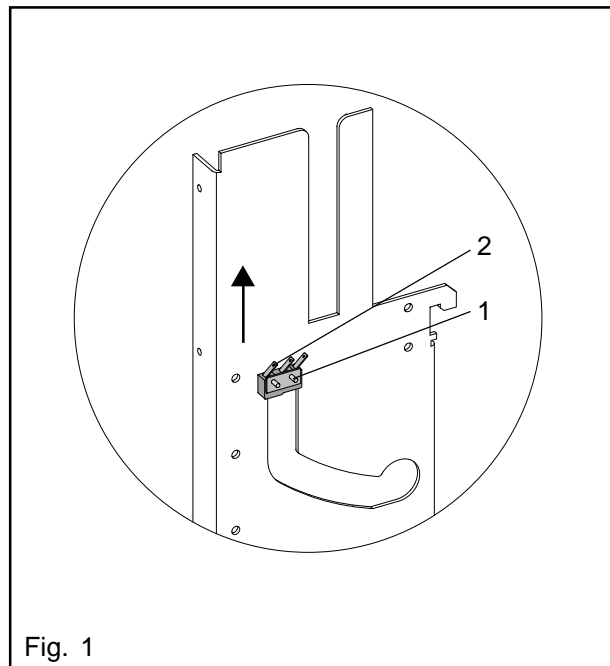

Fig. 1
- Unplug the cable lugs of the defective microswitch, and connect them to the new microswitch. Make sure that the insulation hose is positioned correctly. (Fig. 1).
- Fasten the new microswitch (2) by means of the screws (1), washers, and nuts to the brewer housing. (Fig. 1).
- Unscrew the nut (1). (Fig. 1)
- Remove the spring washer (2). (Fig. 1)